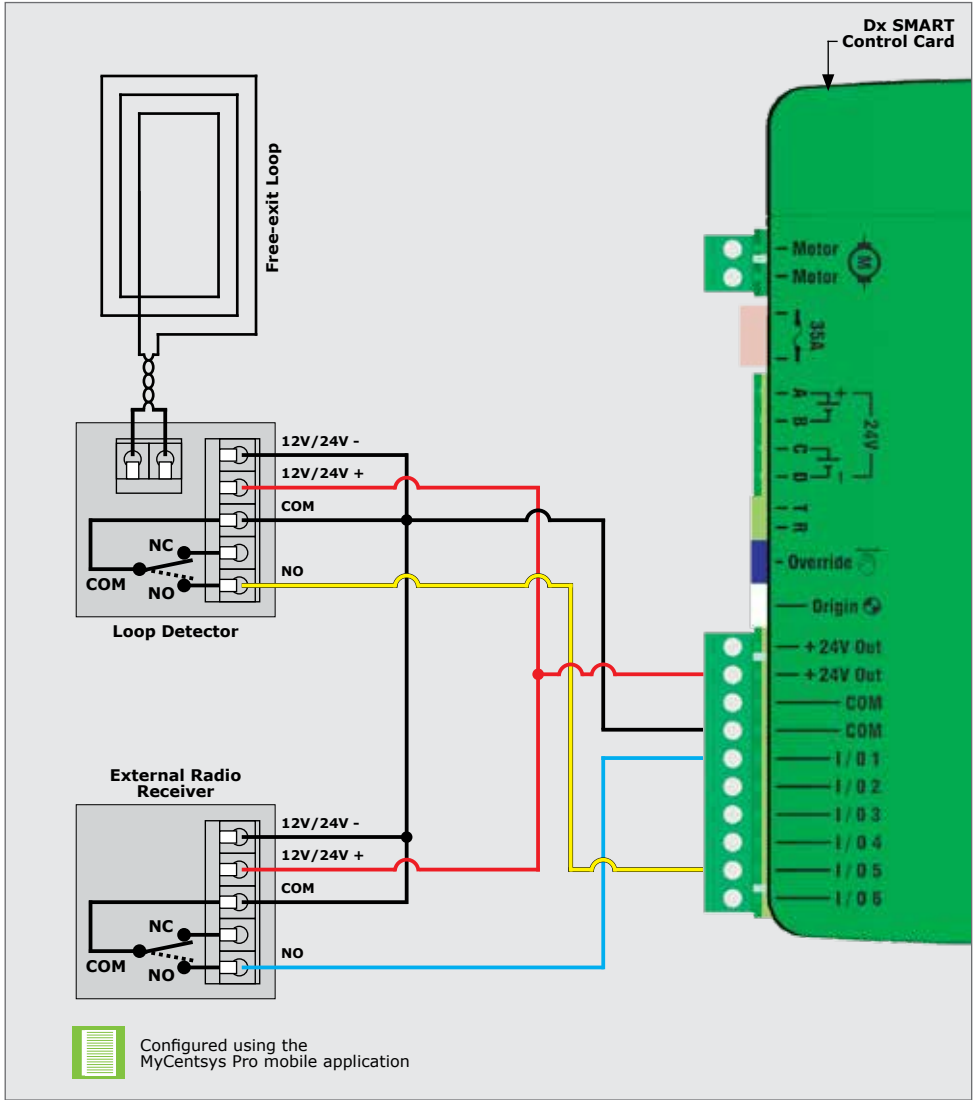

FIGURE 89
- The trigger/TRG (green wire) in Figure 89 can be either wired into IO1 - IO6, depending on the sites individual needs